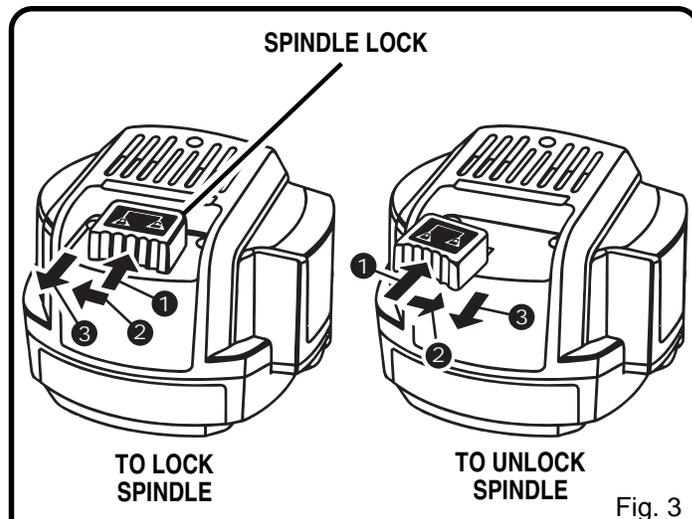

Fig. 3
See Figures 3, 4, and 5.
■ A spindle lock is located on the top of the end cap. See Figure 3. To activate lock, (1) push spindle lock in, (2) slide into lock position, then (3) release spindle lock.